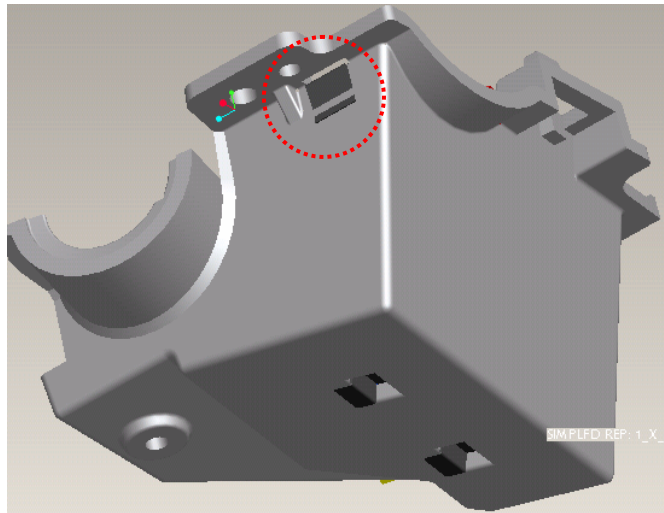

Fig. 6-8
- IV. Assemble CM to HSG ILL and to make CM contact three datum on the HSG ILL Well (Fig. 6-8)